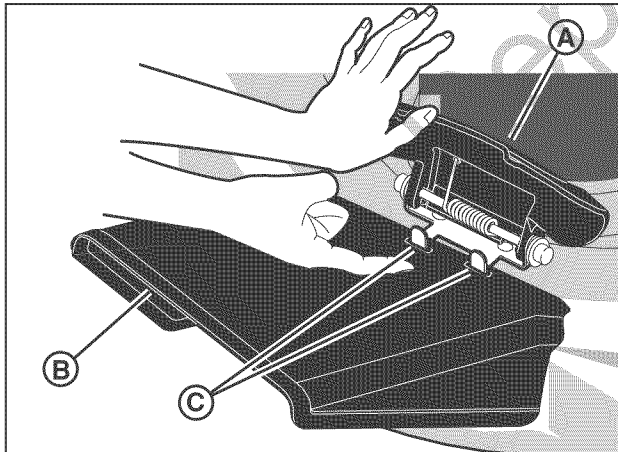

Figure 9: Installing the discharge deflector
1. Raise the mulching cover (A, Figure 9).
2. Install the deflector (B) to the deck under the mulching cover, making sure that the locking tabs on the deck (C) go through the slots in the deflector (B).